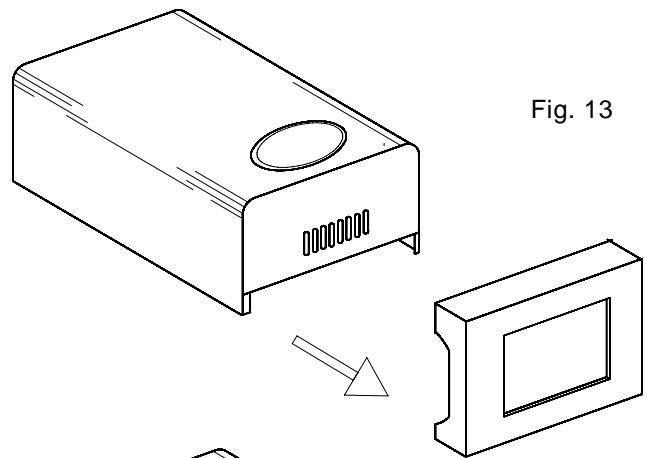

Fig. 13
- 5.3.4 Rest the boiler on the floor and remove the polystyrene guards (fig. 13).